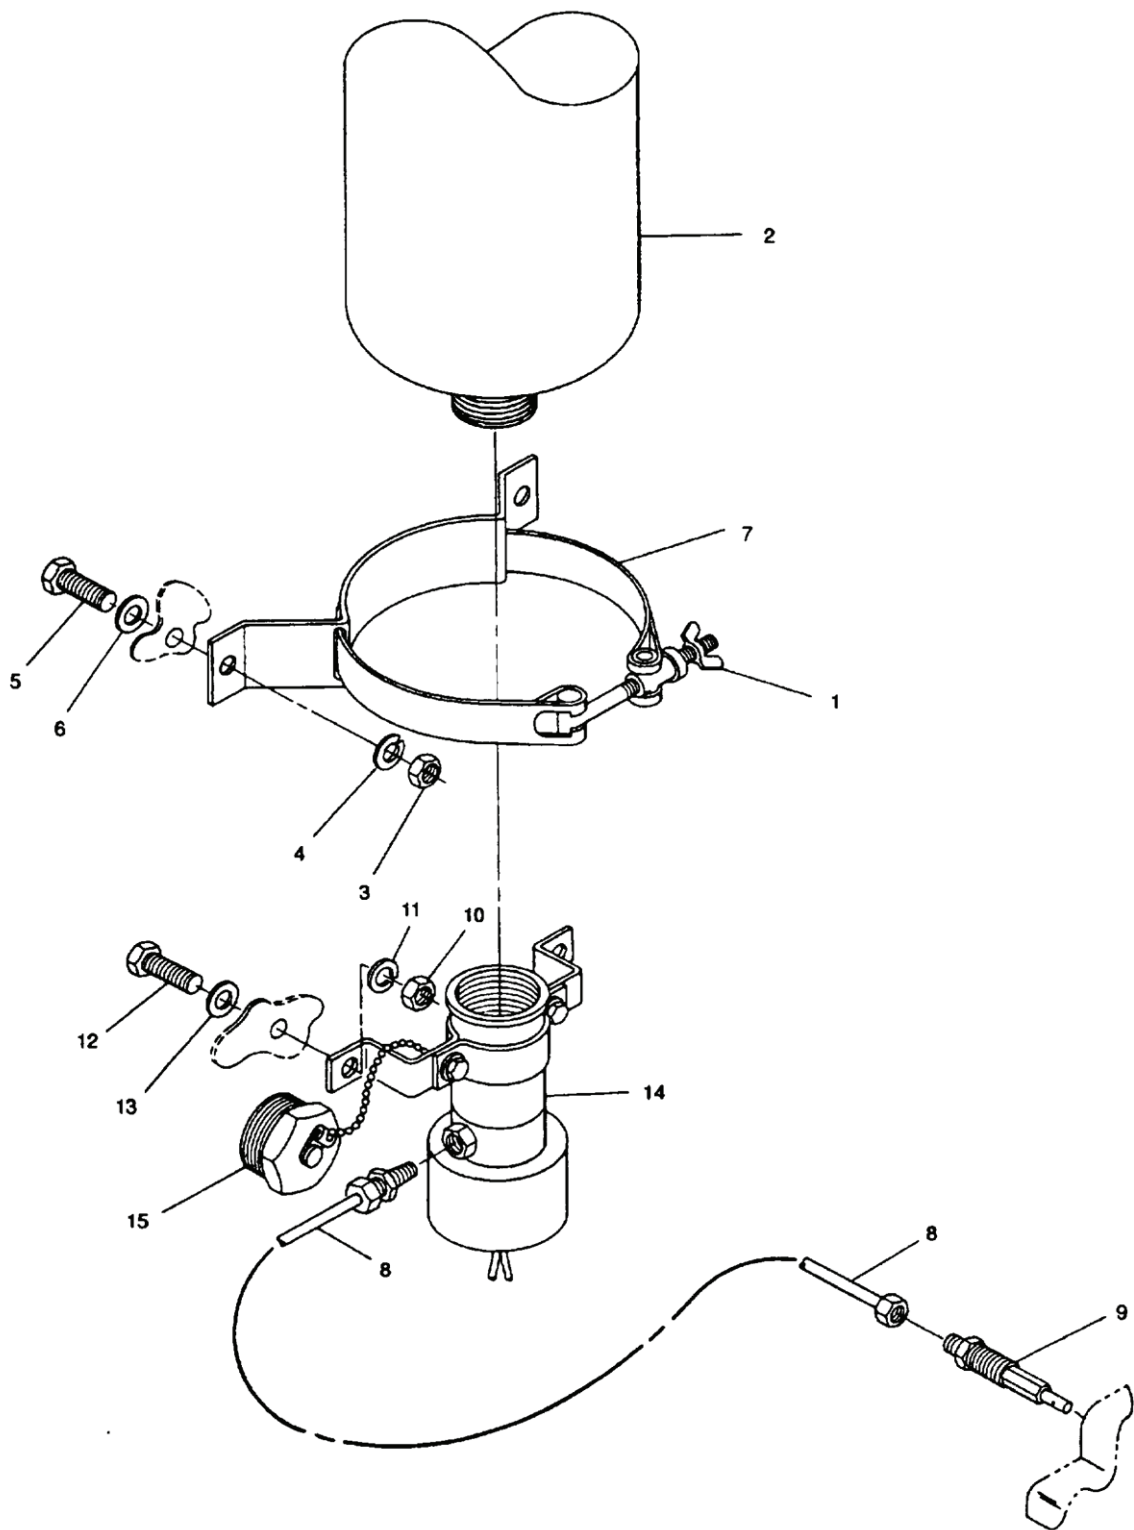

Figure 1. Ether Start System.
3. Remove clamp (WP 0087, Figure 1, Item 60) and hose (61) from drain valve (59).
4. Remove bolt (56), washers (57), and adapter (58). Discard washers (57).
5. Remove drain valve (59) from adapter (58).
1. Install adapter (WP 0087, Figure 1, Item 58) on drain valve (59).
2. Install new washers (57) and bolt (56) to adapter (58) and tighten to bottom of fuel filter/water separator.
3. Install hose (61) and clamp (60) to drain valve (59). Close left side engine access doors.
3. Loosen wing nut (Figure 1, Item 1) and unscrew ether cylinder (2) from ether solenoid valve (14).
4. Install cap (15) in solenoid valve (14).
5. Remove nuts (3), lockwashers (4), bolts (5), washers (6), and ether cylinder bracket assembly (7) from generator set housing. Discard lockwashers (4).
3. Inspect ether cylinder bracket assembly (Figure 1, Item 7) for cracks, corrosion, stripped or damaged threads, or other damage.
1. Install bracket assembly (Figure 1, Item 7) on generator set housing with bolts (5), washers (6), new lockwashers (4), and nuts (3).
2. Remove cap (15) from ether solenoid valve (14).
3. Insert ether cylinder (2) through bracket (7) and screw into ether solenoid valve (14).
4. Close clamp (7) and tighten wing nut (1).
WP 0095, Figure 1, Item 14